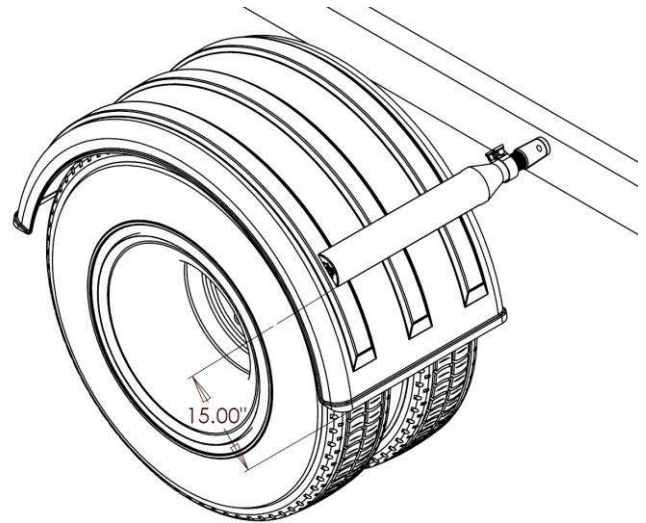

Figure 9
- D. If possible, position the mounting brackets so they are located within 15" of the bottom of the fender. This protects against wind blowing the leading edge of the fender back into the tire (Figure 9).